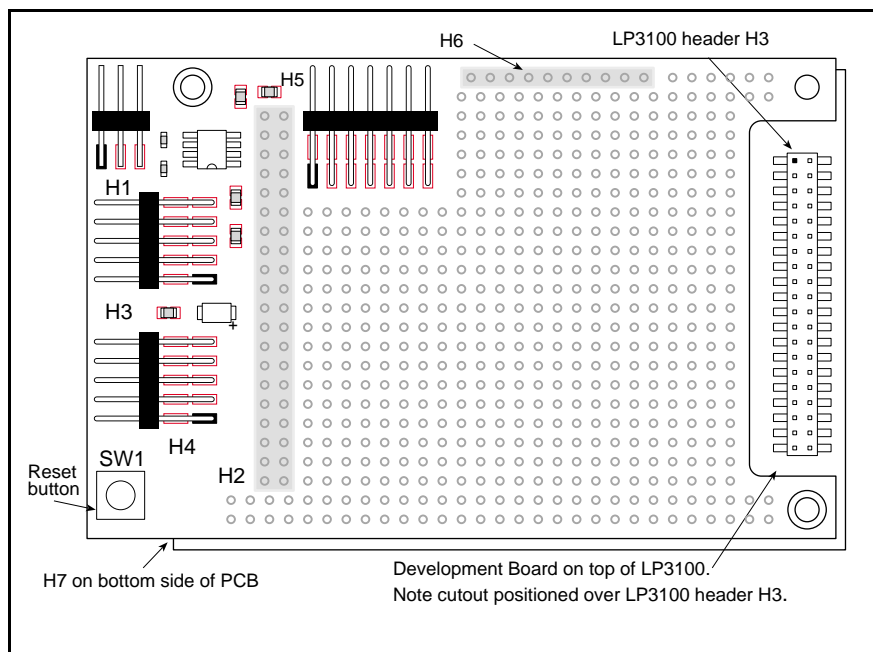

Figure 4. Development Board Placement
3. Mate the LP3100 Development Board to the LP3100. Make sure that H7, on the bottom side of the Development Board, mates with H2 on the LP3100. Figure 4 illustrates the correct placement.